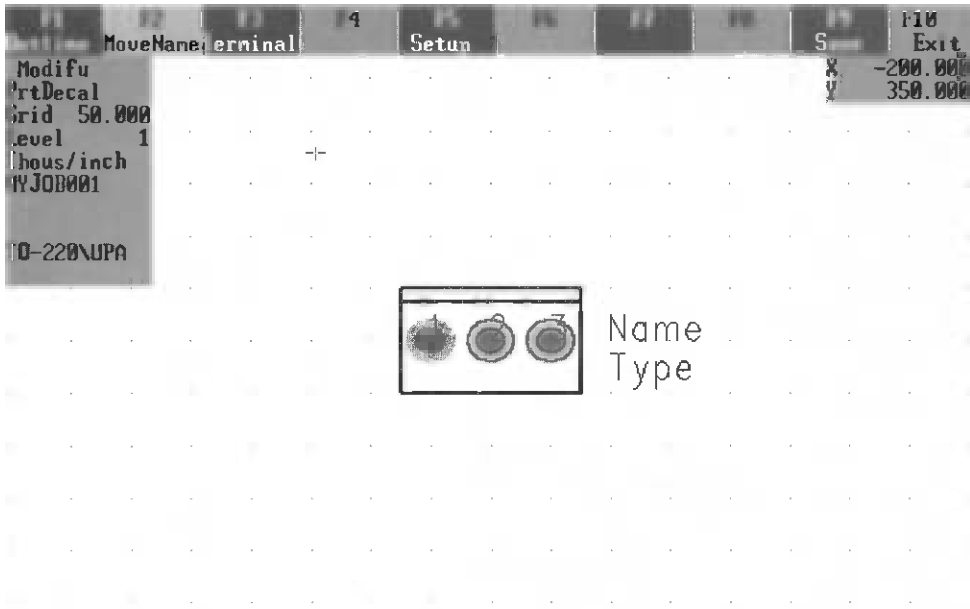

Figure 10-9 TO-220\UPA Part Layout
- **Q3** (Fuji ET365 power transistor): Refer to Figure 10-9 for the TO-220\UPA pin arrangement. The Fuji data sheet for the ET365 shows pin sequence BCE corresponding to pin numbers 1, 2, and 3 respectively. Note that most TO-220 bipolar transistors use this same pinout.